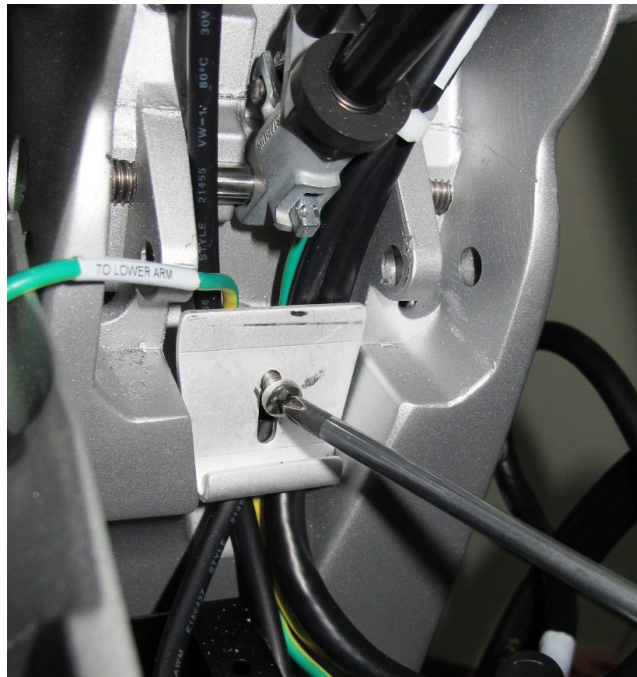

Figure 8-112 White Cable Supporting Bracket
- 7.) Remove white cable supporting bracket - see Figure 8-112 below.
- 3.) Return the white cable supporting bracket to its position on the central column to secure the cables as shown in Figure 8-112 on page 8-88.